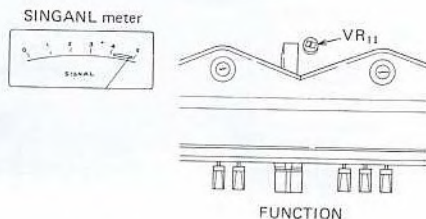

Fig. 9 SIGNAL meter calibration
25. Adjust  $VR_{11}$  so that the SIGNAL meter reads 4.8 (80% of the distance between 4 and 5 on the scale, see Fig. 9).